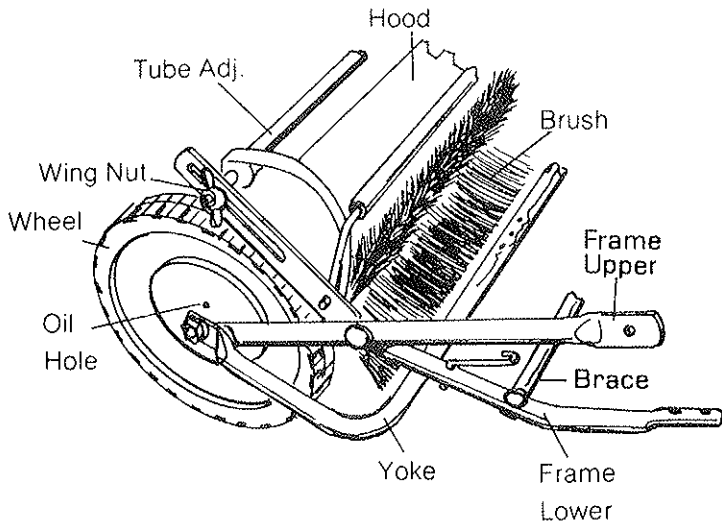
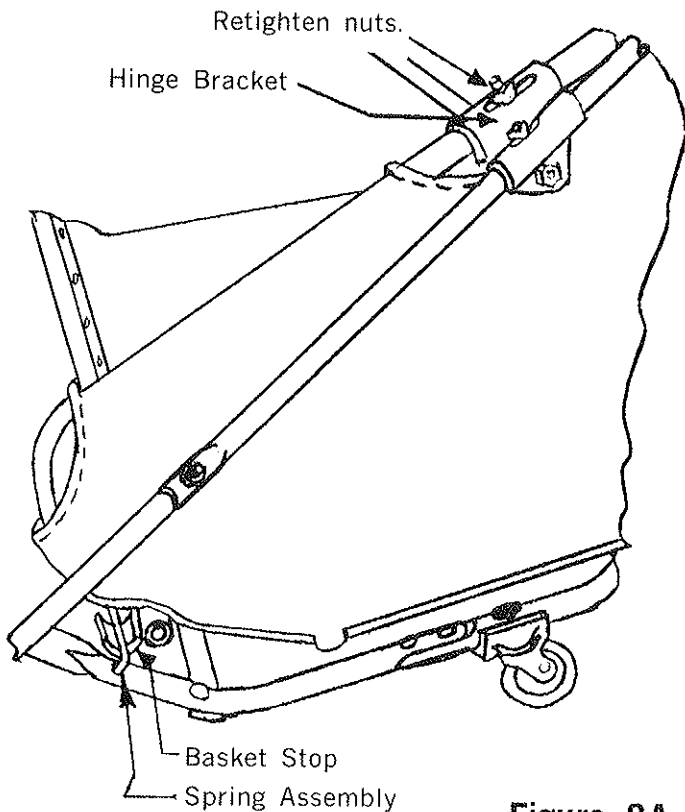
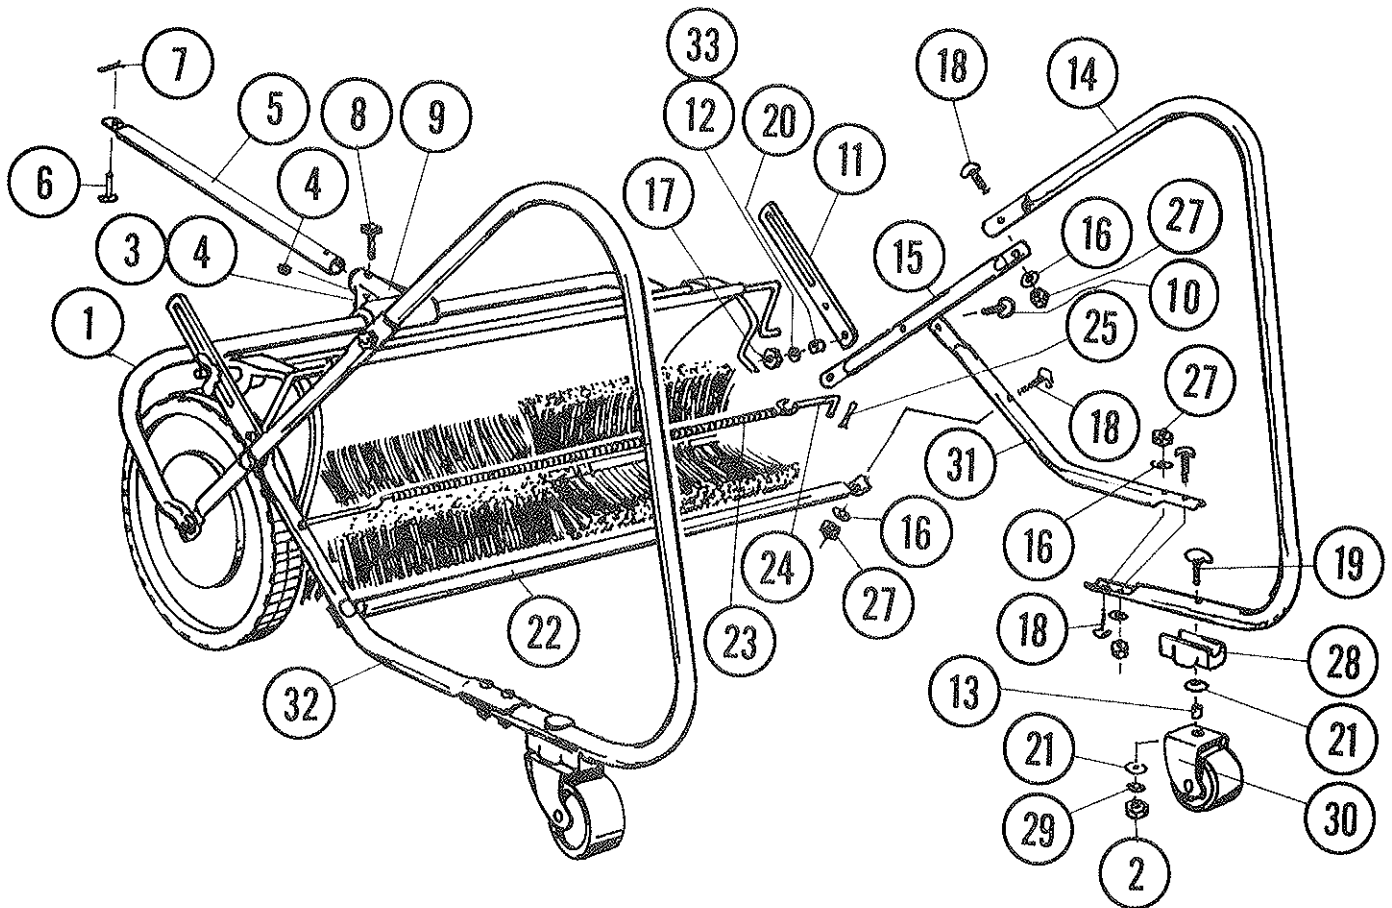

Figure 1
Figure 8A
Figure 12
1. Fig. 1 - Set the Sweeper Head Assembly on the floor with the Yoke under the Brushes as shown. This will protect the Brushes from being flattened on the floor during assembly.
Next, check Basket Stop, Item 19, Fig. 13, to see if both sides make contact with the Stop Spring Hook, Item 24, Fig. 12. If relationship is not as shown in Fig. 8A - move Basket Assembly up or down by sliding Bracket on Support Frame until both sides are in alignment, then tighten Nuts.
Fig. 1 - Loosen large Wing Nut, Fig. 1. To raise brushes to extreme height, pull sweeping unit forward as far as slots in brush adjustment brackets, Ref. No. 11, Fig. 12, will permit. To lower brushes to lowest position, push sweeping unit backwards as far as slots will permit. Secure Wing Nut when desired brush adjustment is obtained.
Fig. 1 & 10 - Place a few drops of oil in the oil hole located on the hub of each Wheel and between the Washer and Bearing Flange on the Reel Shaft inside the Side Plate (both sides plates) and between the caster and Aluminum Bracket (on side frames). Also, the pivot point of the Basket on the Cross Rod. This should be done each time before the Sweeper is used.